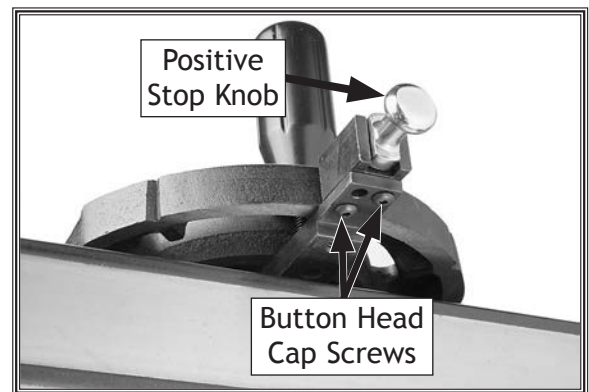

Figure 112. Screws for adjusting miter gauge body.
5. Loosen the button head cap screws on the positive stop knob block (see **Figure 112**), adjust the miter body until it is flush with the square, then tighten the screws.